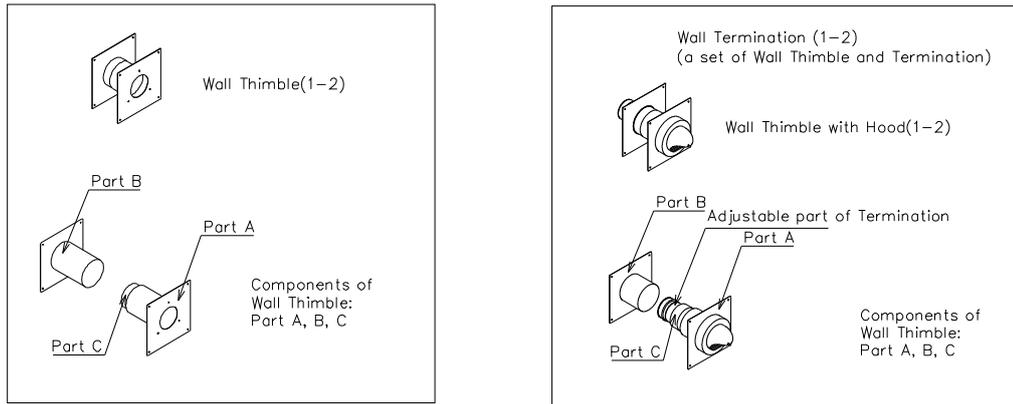

Fig 6 Wall Thimble
⑥ Wall Thimble(See FIG.6)
Wall Thimble has two sleeves in Part A. Part C is incorporated in the inner sleeve of Part A. Pull Part C out of Part A and adjust the whole length of cylindrical part of Part A and Part C to fit the wall thickness. In accordance with the wall thickness, select the Wall Thimble from 1 to 2(See (3)Table 4). Some items are pre-assembled at factory from Wall Thimble and Termination (Hood) with adjustable mechanism as a set of Wall Termination (See Fig 6).